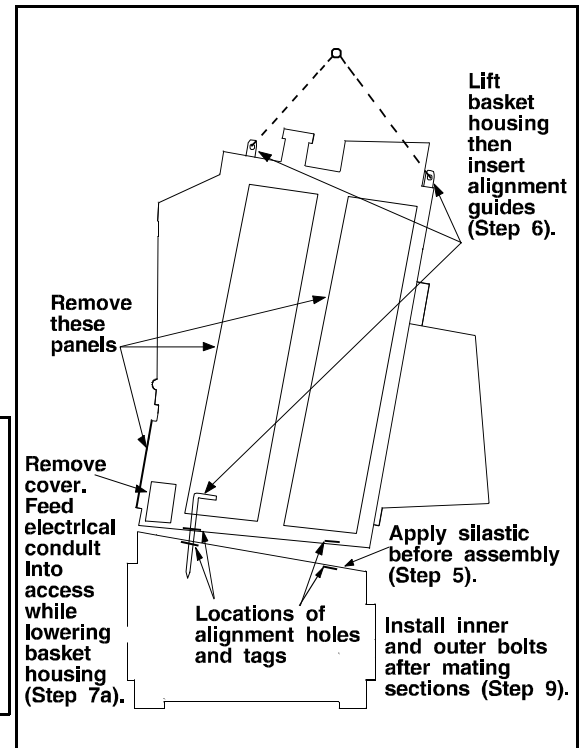
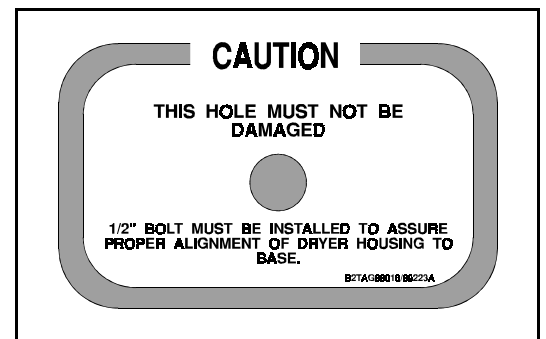

FIGURE 2 (MSIN0108AE)
FIGURE 3 (MSIN0108AE)
See FIGURE 2 during the following procedures.
6. Raise the basket housing using the three designated lifting rings located on the top of the machine housing. Insert the two alignment guides supplied with machine through the holes identified by alignment tags (FIGURE 3) as shown in FIGURE 2.
NOTE: See FIGURE 2 during the following procedure.
- a. Use the electrical access panel (FIGURE 2) to help pass the flexible conduits and wires (located under the right front corner of the base) through the right front corner of the basket housing **as the basket housing is being lowered**.